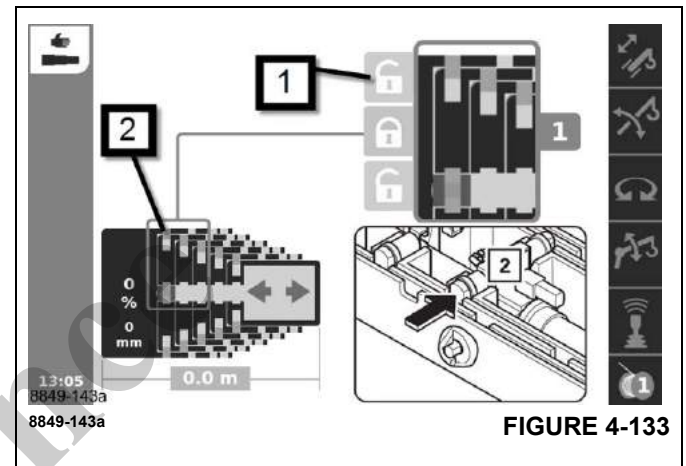

FIGURE 4-133
Select the symbol (1), (Figure 4-133).